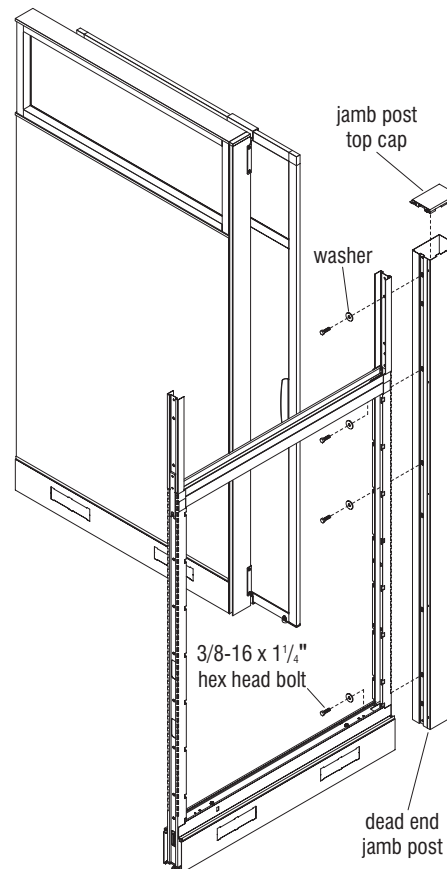

Figure 17
1. Position the dead end jamb post to the end of the panel frames so that approximately 1" of the post extends into the walkway. Fasten the jamb post to the panel frame using the 3/8-16 x 1 1/4" hex head bolts and washers from inside the panel. Next install the jamb post top cap to the jamb post (Figure 17).